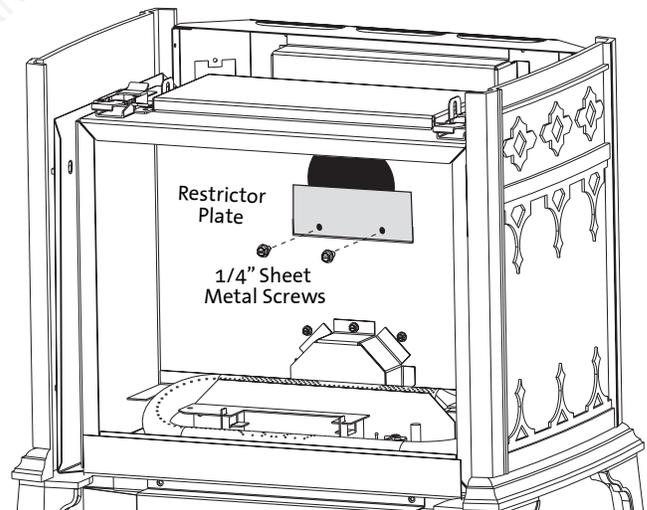

Figure 5. Installing the Exhaust Restrictor Plate.
2. Using a 1/4" nut driver, remove the two sheet metal screws in the rear wall of the firebox below the exhaust hole. See fig. 5.